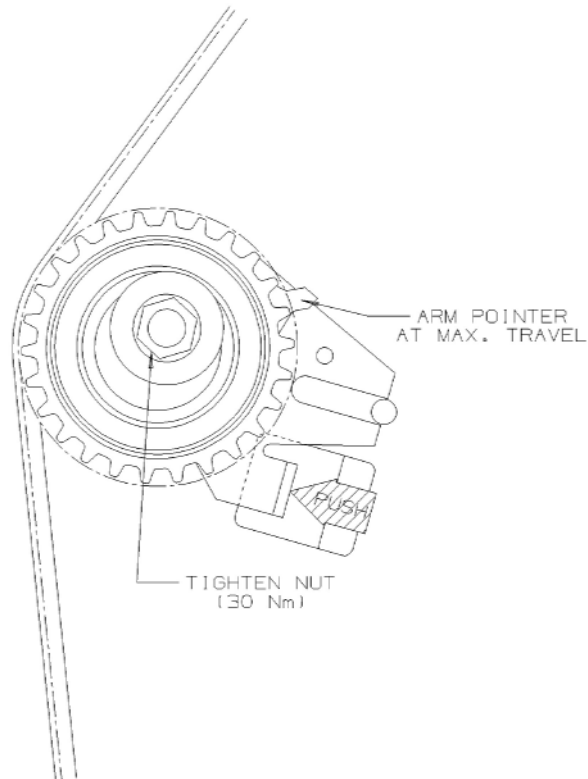

Figure 3: Proper Initial Setup of Tensioner.
7. Push the tensioner into the belt using the proper installation tool. The tensioner assembly will move against the belt and the Arm will eventually start to move **COUNTERCLOCKWISE**. Continue pushing the tensioner until its maximum travel position (See Figure 3).
9. Rotate the crankshaft two (2) complete revolutions manually for proper seating of the belt until the crankshaft is repositioned at the TDC position.